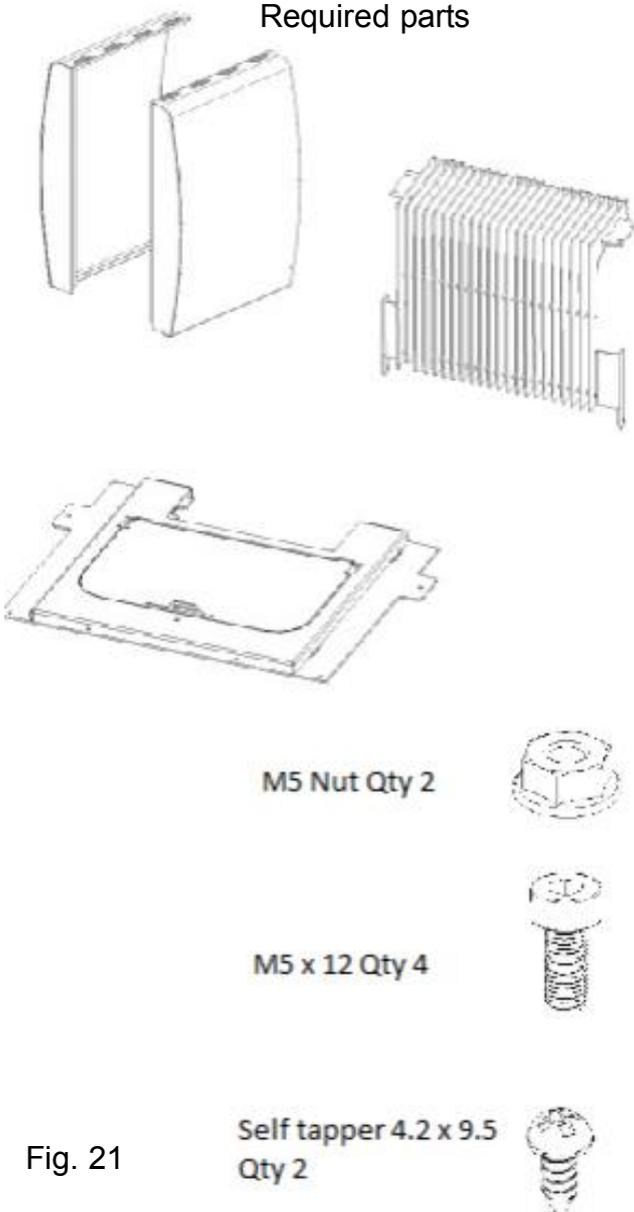

Fig. 21
- a) Fit the top plate as shown in figure 21. To ensure that the top is properly seated, it contains four pins on the bottom that should fit the springs in the frame.